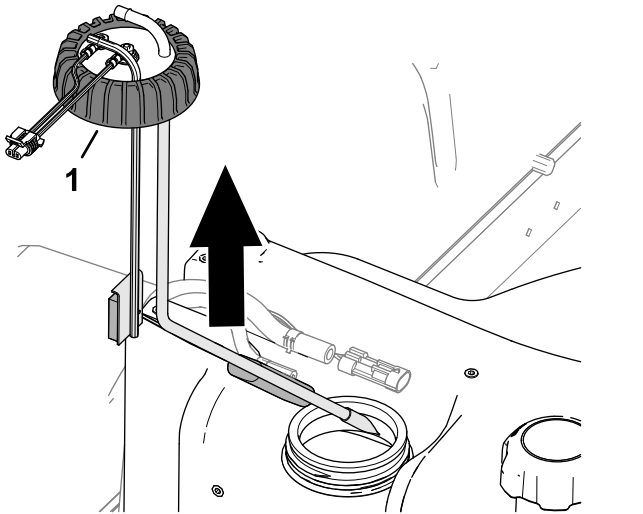

Figure 121
5. Loosen the fuel-sender cap (Figure 121).